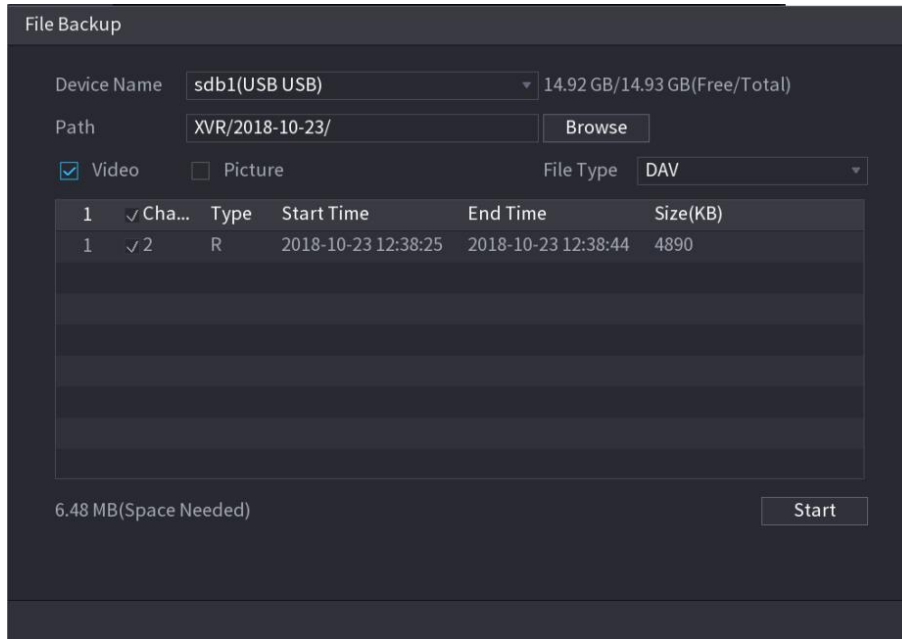

Figure 5-133
- To back up the recorded files to the external storage device, select files, click **Backup**, select the save path and file type, and then click **Start**. See Figure 5-133.